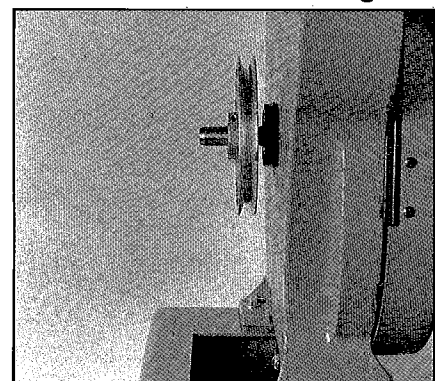

Fig. 3
4. Loosen the set screw on the bandsaw's large pulley and push pulley toward the saw body. Do not tighten at this time. See figure 3.